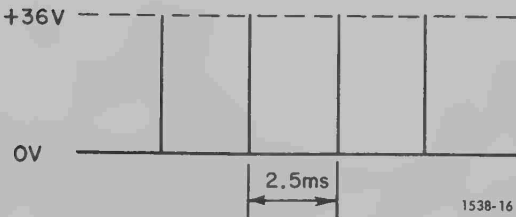

Figure 4-6. Voltage waveform at pin #3 of the panel EXT LAMP socket, SO901 (24,000 RPM).
d. Observe the waveform at pin #3 of the panel EXT LAMP socket (SO901) and compare it with that of Figure 4-6. Improper waveform is caused by trouble in the trigger generator.
c. Compare the waveform at terminal #3 of the panel EXT LAMP socket with the correct waveform, shown in Figure 4-6. A discrepancy in the waveform indicates a broken wire associated with the EXT LAMP socket or malfunctioning of switch S903.